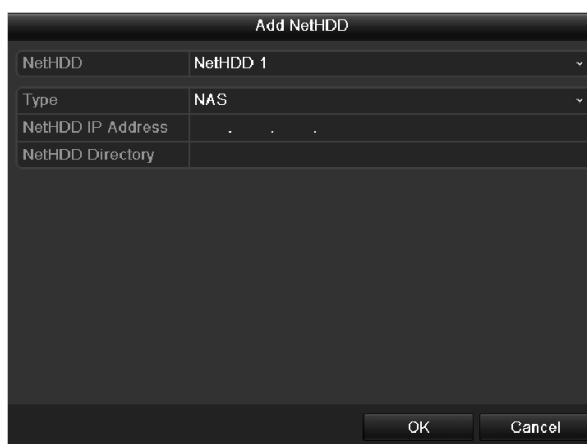

Figure 10. 6 HDD Information Interface
2. Click the **Add** button to enter the Add NetHDD interface, as shown in Figure 10. 6.